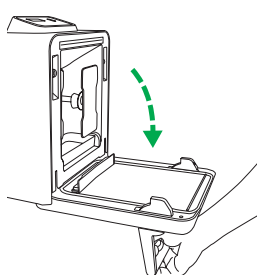

Figure 8
5. To remove the paddles, unclick them one after the other. (Fig. 8)